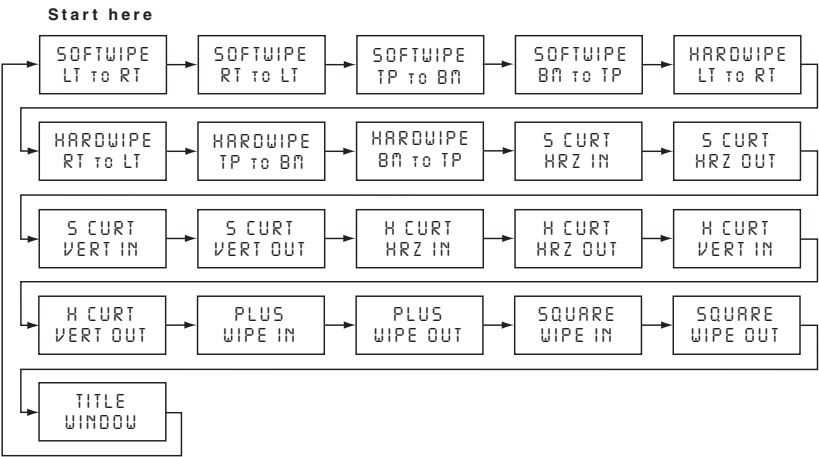

Figure 3-8 — Available wipes
2. Rotate the Adjust knob next to the buttons and select a wipe from the 21 choices presented in sequence (see figure 3-8 on the next page).